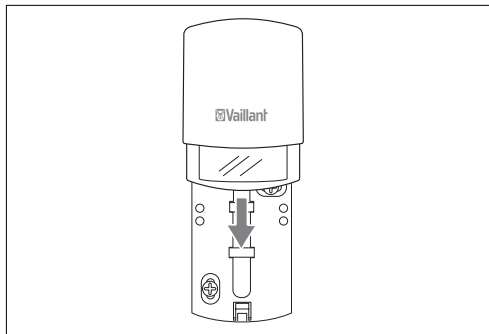

Fig. 3.7 Fixing wireless outdoor sensor to wall socket
**Ensure correct polarity of the batteries (see Fig. 3.7).**